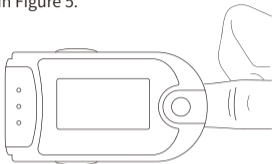

Figure 5 Put finger in position
- 🔔 The finger should be placed correctly (see Attached figure 5), as improper installation or improper contact position for sensor will influence the measurement.
- 2) Open the clip as shown in Figure 5.